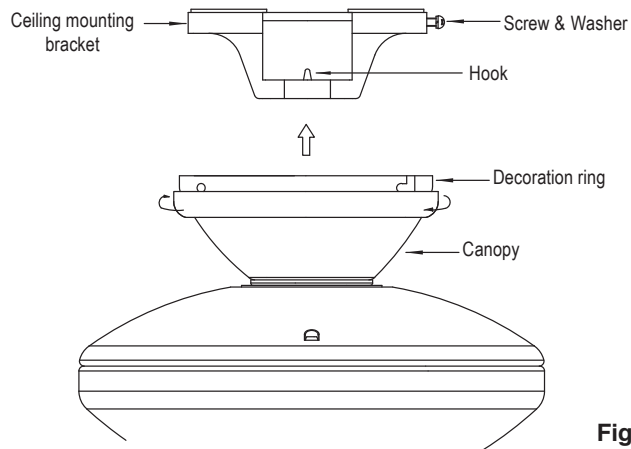

Fig. 14
Step 2. Motor to Receiver Electrical Connections: (Fig. 14) Connect the black wire from the fan to the black wire marked “TO MOTOR L” on the receiver. Connect the white wire from the fan to the white wire marked “TO MOTOR N” on the receiver. Connect the blue wire from the fan to the blue wire marked “FOR LIGHT” on the receiver. Secure all the wire connections with the plastic wire nuts provided.
Step 3. (Fig. 14) Receiver to House Supply Wires Electrical Connections: Connect the black (hot) wire from the ceiling to the black wire marked “AC in L” from the receiver. Connect the white (neutral) wire from the ceiling to the white wire marked “AC in N” from the receiver. Secure the wire connections with the plastic wire nuts provided.
Step 4. (Fig. 14) If your outlet box has a ground wire (green or bare copper) connect it to the fan ground wires; otherwise connect the hanging bracket ground wire to the mounting bracket. Secure the wire connection with a plastic nut (provided). After connecting the wires, spread them apart so that the green and white wires are on one side of the outlet box and black and blue wires are on the other side. Carefully tuck the wire connections up into the outlet box.
Step 3. Make sure all four mounting screws are tight. (Fig. 14)